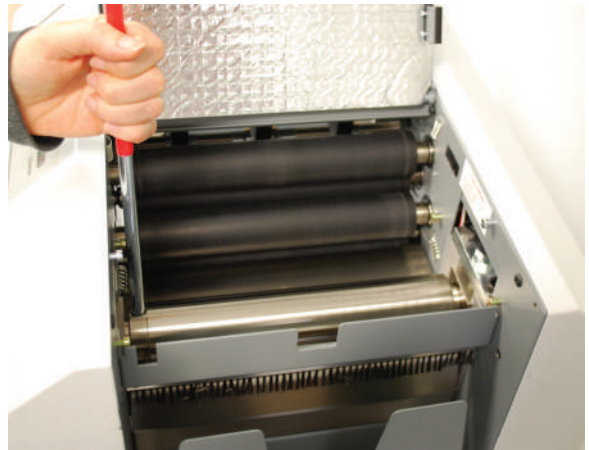

Fig. 13
1. If a jam occurs between the metal rollers remove any remaining forms from the hopper. Open the top cover and remove the upper fold plate. Remove the jam clearing handle (located under the upper fold table) apply the handle to the upper metal roller (Fig13) and turn clockwise until the paper jam is clear. NOTE: Do not turn the roller counter-clockwise to force the forms to exit: rollers may be damaged. Remove the damaged form, return tool to holder and reinstall upper fold plate.